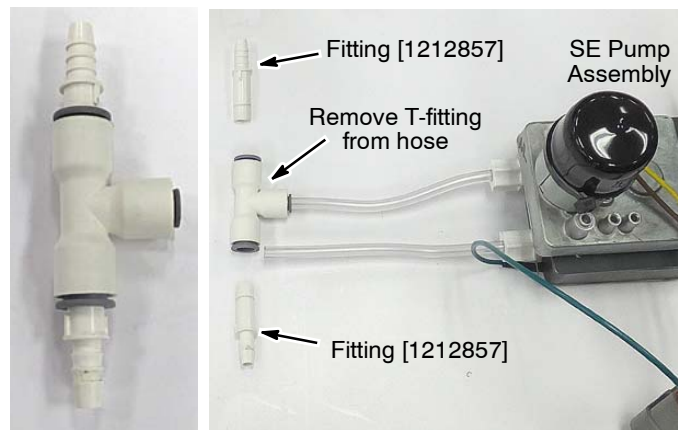

Fig. 26
2. Remove the T-fitting from the SE pump assembly and install two straight fittings to the T-fitting as shown (Figure 26). To remove T-fitting from hose, press the gray collar inward and pull the hose outward.